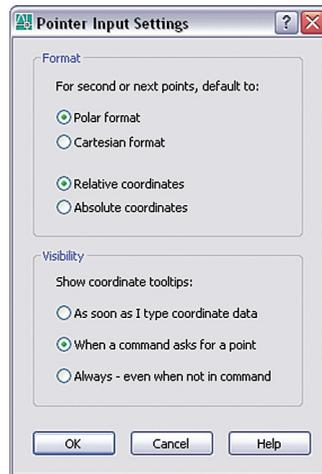

Figure 2. Choose how and when you would like pointer input to appear.
4. You can control the input format for coordinates and input values by selecting Settings. You'll probably want to stick to Relative and Polar (Figure 2).